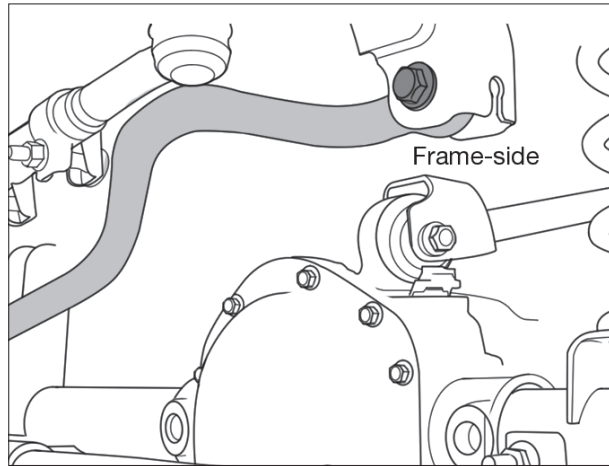

Figure 14
- On **2007-2010** models only, loosen but **DO NOT** remove the frame-side track bar bolt. Remove and save the axle-side track bar bolt and flag nut (Fig. 14).